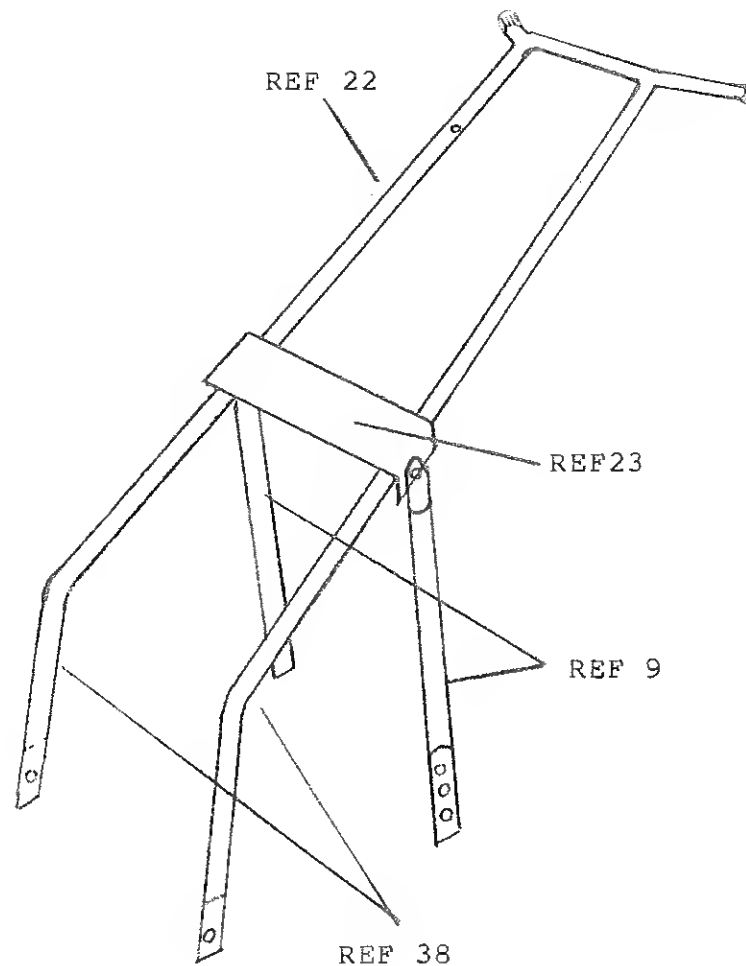

FIGURE. 1
To assemble HANDLE BAR ASSEMBLY See Figure 1 to see how it fits together. Install LOWER HANDLES (REF.38) onto front of REAR WHEEL FRAME (REF.2) using (2) bolts (REF. 41) and (2) nuts (REF. 27) and tighten. Insert HANDLE ASSEMBLY (REF. 22) and CROSS BRACE (REF. 23) and the R.H. HANDLE BRACE (REF. 9) using (3) bolts (2) bolts (REF. 42) and (1) (REF. 26) and tighten with (3) nuts (REF. 27). Last insert the L.H. HANDLE BRACE (REF. 9) and fasten onto REAR WHEEL FRAME (REF. 2) with (2) bolts (REF. 41) and nuts (REF.27).